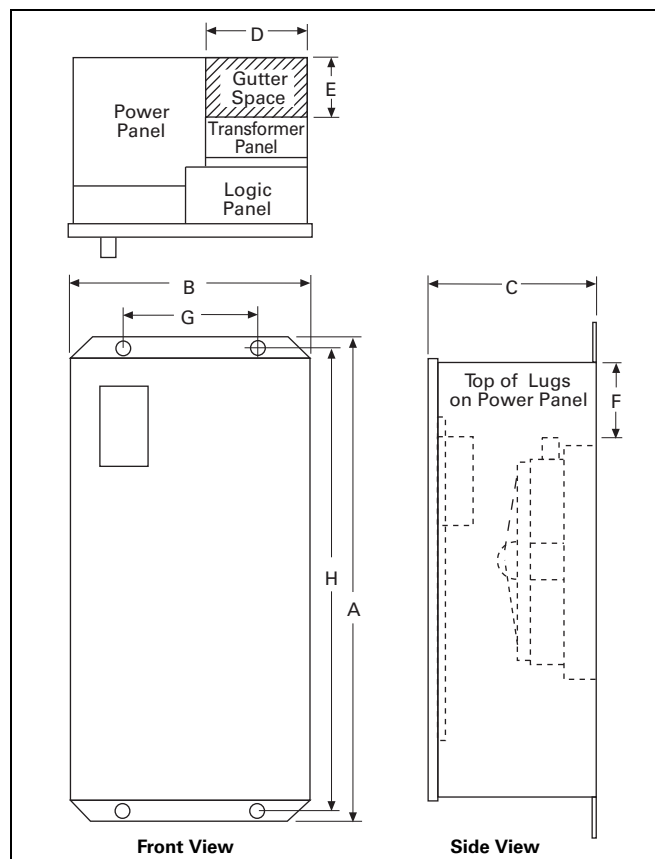

Figure 25.2-3. Dimensions
Table 25.2-10. 30–1000 A Types NTHE—NTVE NEMA 1, 3R and 12 (See Figure 25.2-3) ①